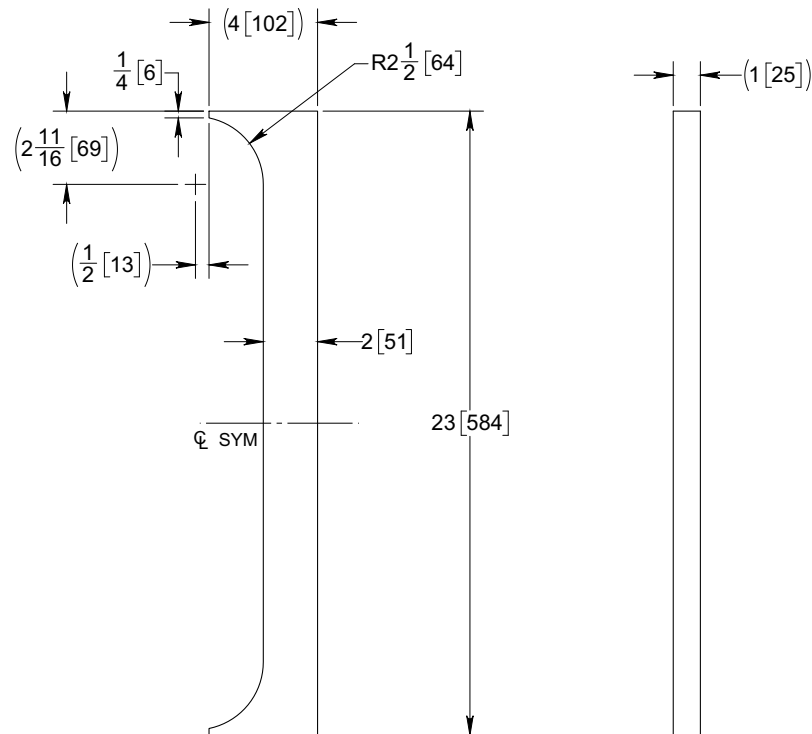

Figure 6: Plate P/N: DT27200-4
1. Using ASTM A36 material, fabricate one (1) plate (item 4 on Table 1 on page 3) as indicated in Figure 6.